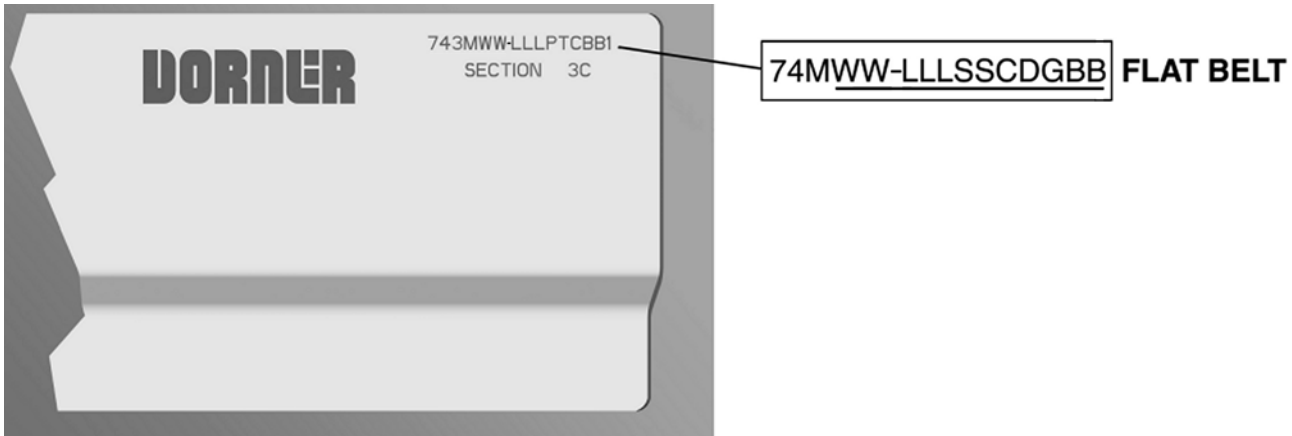

Figure 73
Refer to the model number on the conveyor frame (**Figure 73**). From the model number, determine conveyor width (WW), length (LLL), drive stand location (S), idler stand location (S), cleaning options (C), drive/pulley type (D), profile (G) and belt material (BB).